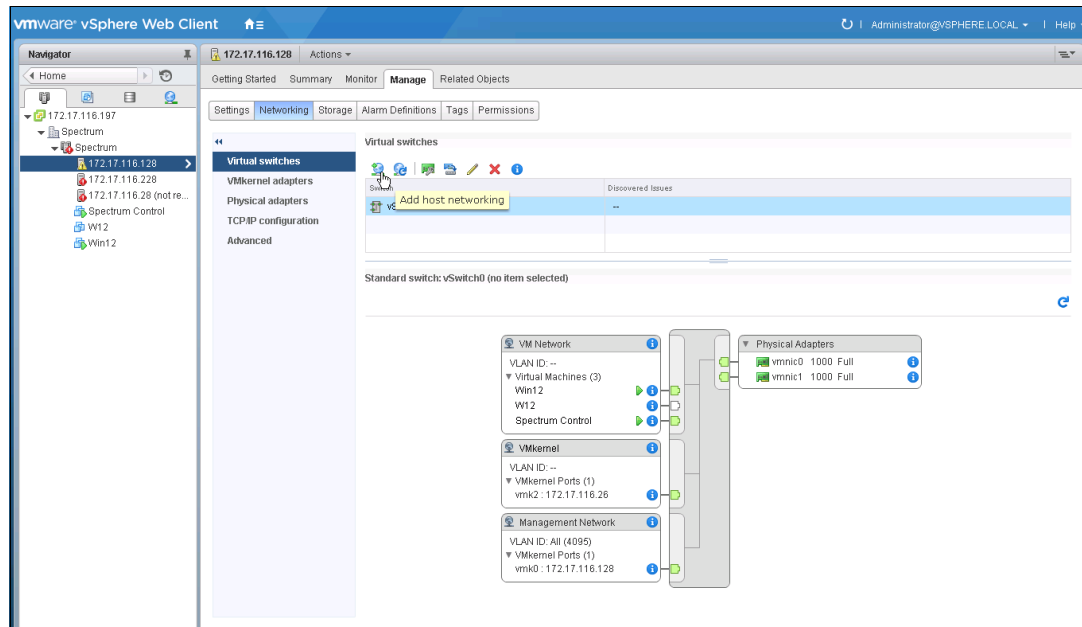

Figure 5-19 Select VMware networking
1. Connect to your ESXi server by using the vSphere Client. Go to **Manage**, and select **Networking** (see Figure 5-19).